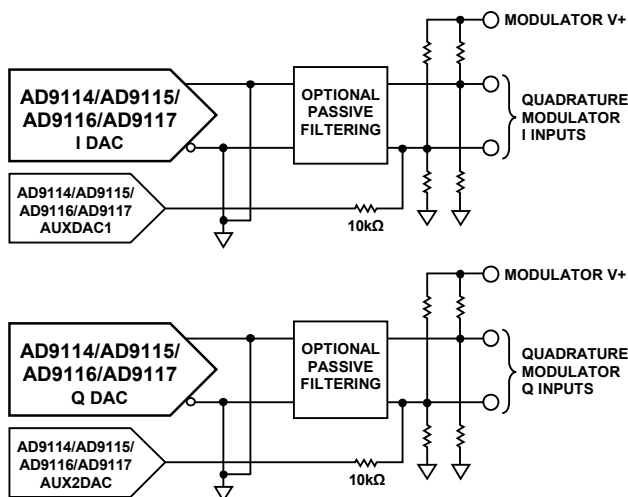
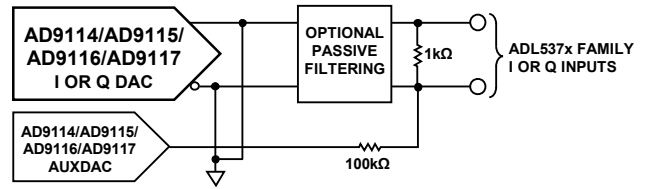

Figure 93. Typical Use of Auxiliary DACs
Figure 94. Typical Use of Auxiliary DACs When DC Coupling to Quadrature Modulator ADL537x Family
The auxiliary DACs can be used for local oscillator (LO) cancellation when the DAC output is followed by a quadrature modulator. This LO feedthrough is caused by the input referred dc offset voltage of the quadrature modulator (and the DAC output offset voltage mismatch) and can degrade system performance. Typical DAC-to-quadrature modulator interfaces are shown in Figure 93 and Figure 94. The input common-mode voltage for the modulator could be higher than the output compliance range of the DAC, even with the R_{CM} feature so that ac coupling or a dc level shift is necessary. If the required common-mode input voltage on the quadrature modulator is within that of the DAC, the dc blocking capacitors in Figure 93 can be removed. The 50 Ω resistors can, of course be omitted, if the internal resistors are used. A low-pass or band-pass passive filter is recommended when spurious signals from the DAC (distortion and DAC images) at the quadrature modulator inputs can affect the system performance. Placing the filter at the location shown in Figure 93 and Figure 94 allows easy design of the filter because the source and load impedances can easily be designed close to 50 Ω for a 20 mA full-scale output.